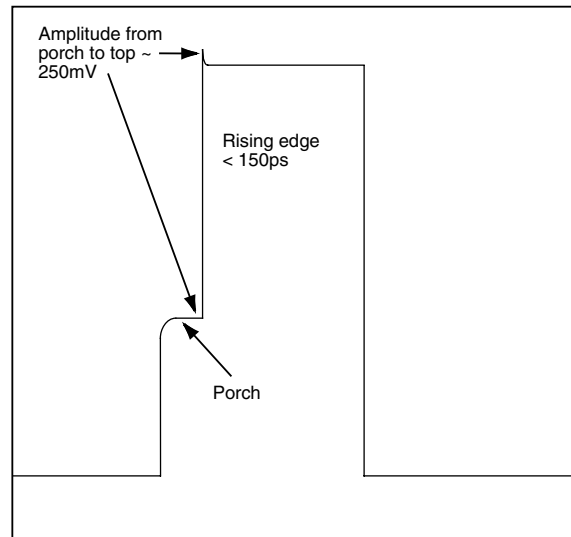

Figure 5-2. Fast Edge Full Wave Form
A typical fast edge waveform looks like Figure 5-2. Notice how the fast edge signal rides on top of a porch signal.
All 5820A Calibrators shipped after serial number 8750001, and Calibrators sent in for installation or repair of the fast edge after October 1, 2004 have a new fast edge circuit that is factory set and requires no adjustment. The new fast edge has slightly larger amplitude (~300 mVpp) but the rise time meets all specifications. Unlike the previous fast edge, the product has no porch as was shown in Figure 5-2. Adjustment holes for the older product have been blocked.
17. Adjust the vertical/horizontal settings of the oscilloscope so that an entire fast edge waveform can be viewed. It should look like the waveform in Figure 5-2.